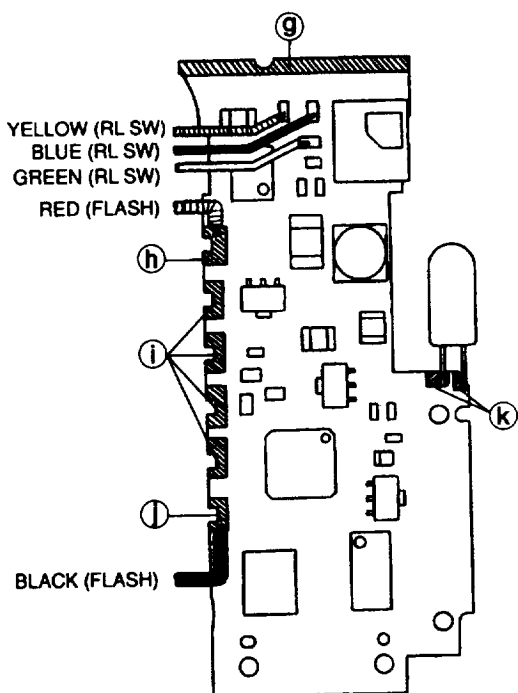
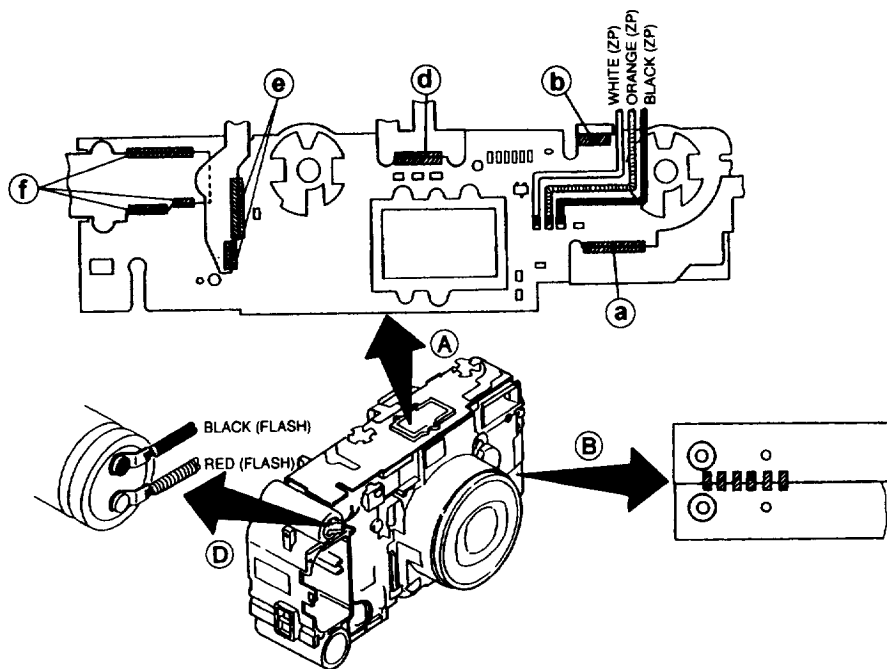

Fig3
Fig4
- (1) Unsolder 6 soldering point between the IF FPC and the MOTOR FPC. (Fig. 4, (B))
- (2) Take off two SCREWS (①) and remove the ZOOM GEAR FRAME (②).
- (3) Remove the L ZOOM GEAR 6 (⑫), the M16 GEAR (⑧), the ZOOM 2 GEAR (⑥), the ZOOM 3 GEAR (⑦), the L ZOOM 5 GEAR (⑪), the ZOOM 4 GEAR (⑨) and the ZOOM 5 GEAR (⑩).
- (4) Peel off the MAIN CAPACITOR B (④).
- (5) Peel off the DATE SW part of D FPC (B) from BODY. (DATE MODEL only)
- (6) Take off two SCREWS (⑬) and remove the CAS COVER UNIT (⑰).
- (7) Remove four DX CONTACTS (⑱). (Pressing)
[NOTE] May be unsoldered two LEAD WIRES (Black, Red) on the MAIN CAPACITOR B (Fig. 3, (D)), instead of removing the DX CONTACTS.
- (8) Peel off the MAIN CAPACITOR A (⑤).
- (9) Unsolder two LEAD WIRES (Black, Red: WIND MOTOR) on the MOTOR FPC. (A)
- (10) Peel off the BACK COVER SW part of MOTOR FPC (c) from BODY.
- (11) Take off the SCREW (⑬&⑭) then remove the ZOOM MOTOR and the MOTOR FPC (⑮) together.
- (12) Remove the FLASH PCB (③) and remove the FLASH UNIT (②~⑤).
- (13) Take off the SCREW (⑲&⑳) then remove the AF UNIT (㉑).